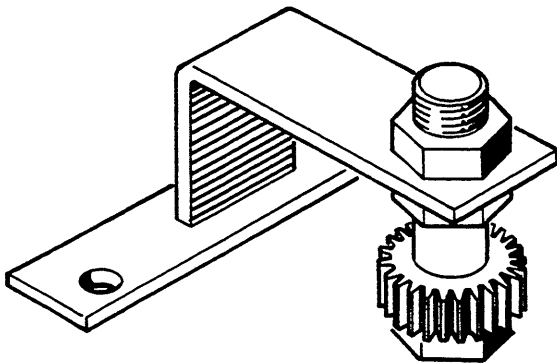

Fig. 28
- Secondary ring gear retaining tool, No. 3376888 M1 (Fig. 28)